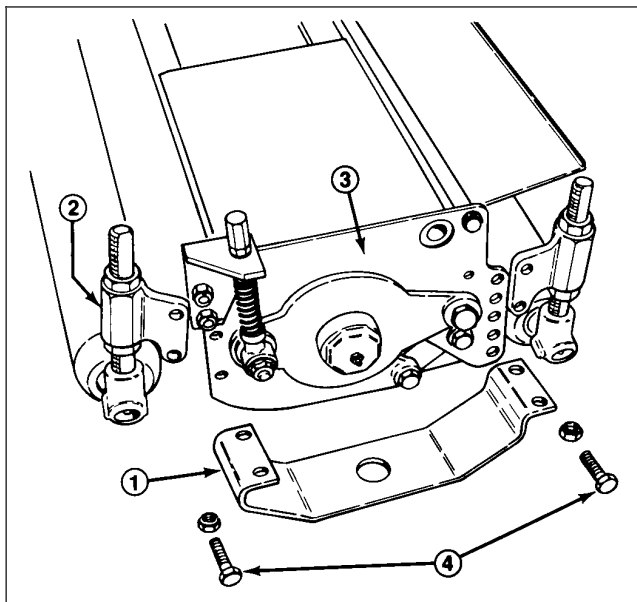
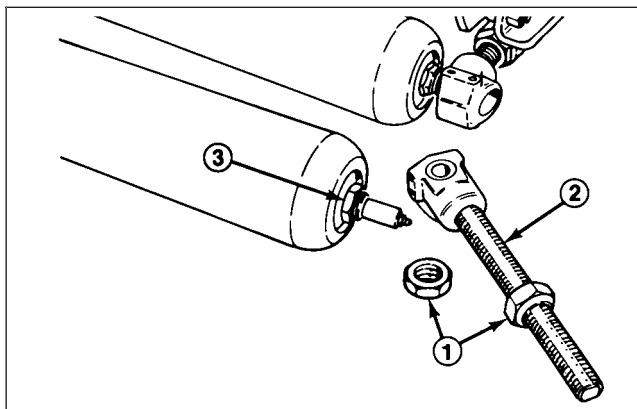

Figure 24
Figure 25
1. Remove the fasteners securing the guard and roller adjustment housing to the side plate (Fig. 24) or unscrew the upper cone nut and drop the threaded rod out of the adjustment housing (Fig. 25).
2. The threaded rod and collar assembly can be removed from the roller by sliding it off the shaft at both ends (Fig. 25).
IMPORTANT: When assembling a new roller to the cutting unit mount the roller so that the roller shaft “locknut” is on the right side of the cutting unit (Fig. 25). (As viewed by the operator sitting on seat of machine). This prevents the lock nut from loosening during operation.